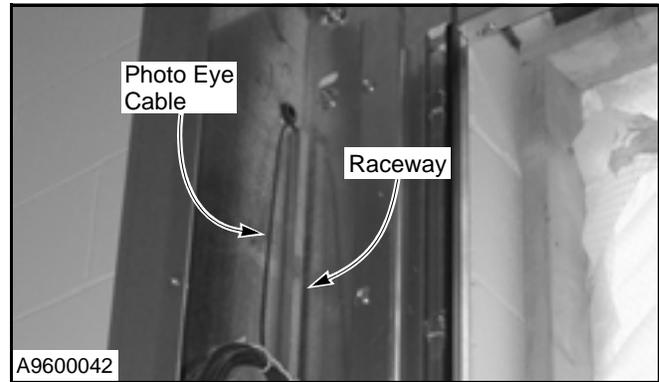

Figure 63
2. Each cable has been routed up through a vertical raceway located in the corner of the side column. Locate the free end of each photo eye cable. (See Figure 63.)